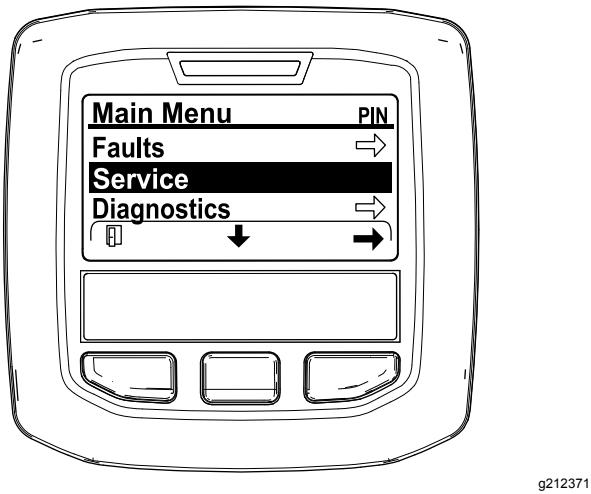

Figure 32
- Navigate to the MAIN MENU, press the center button to scroll down to the SERVICE MENU, and press the right button to select the SERVICE option (Figure 32).